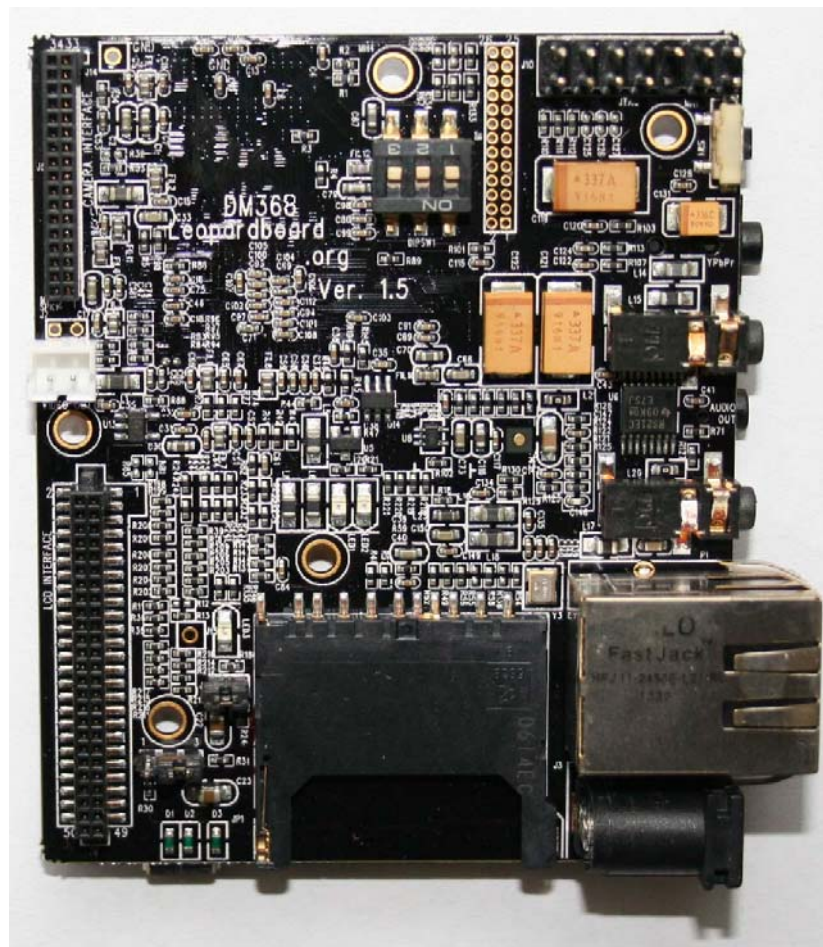

Figure 2. LeopardBoard 368
1.1 LeopardBoard 368, see Figure 2.